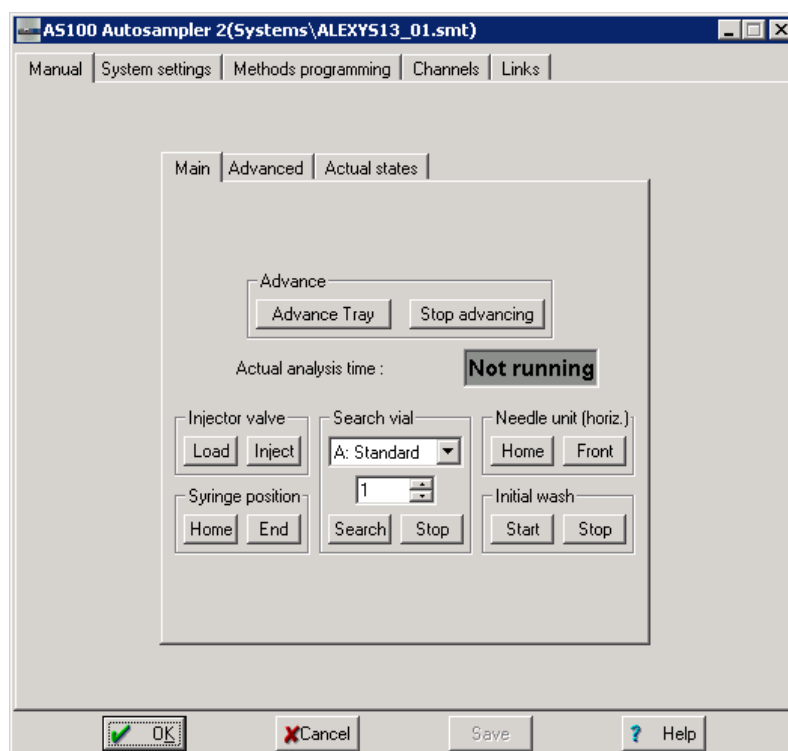

Fig. 5. AS 100 driver in ALEXYS data system, 'Main' page for manual control of autosampler.
6. Click 'End' button in 'Manual/Main/Syringe position' menu to fill the syringe (Fig. 5).